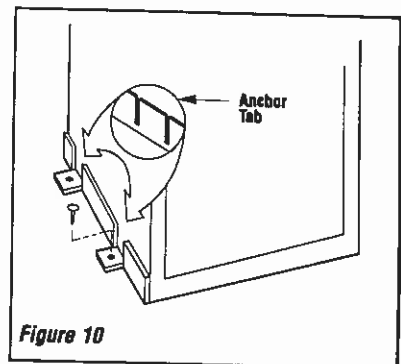

Figure 10
Fireplace may be anchored to floor. Bend down four (4) anchor tabs located at the base of the fireplace and secure to the floor by nailing with 8d nails (*Figure 10*).